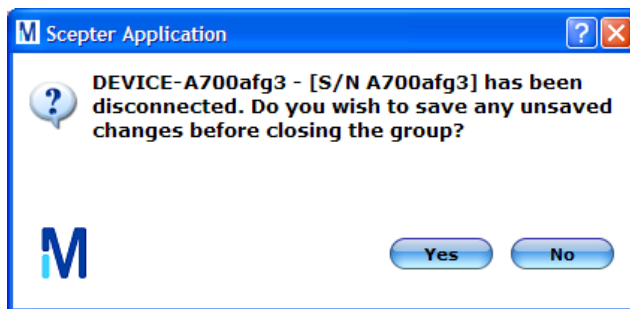

Figure 9. Scepter Application disconnect dialog box
1. Click **Disconnect** on the Scepter device screen or unplug the device from the USB port of the computer. A dialog box appears (Figure 9).